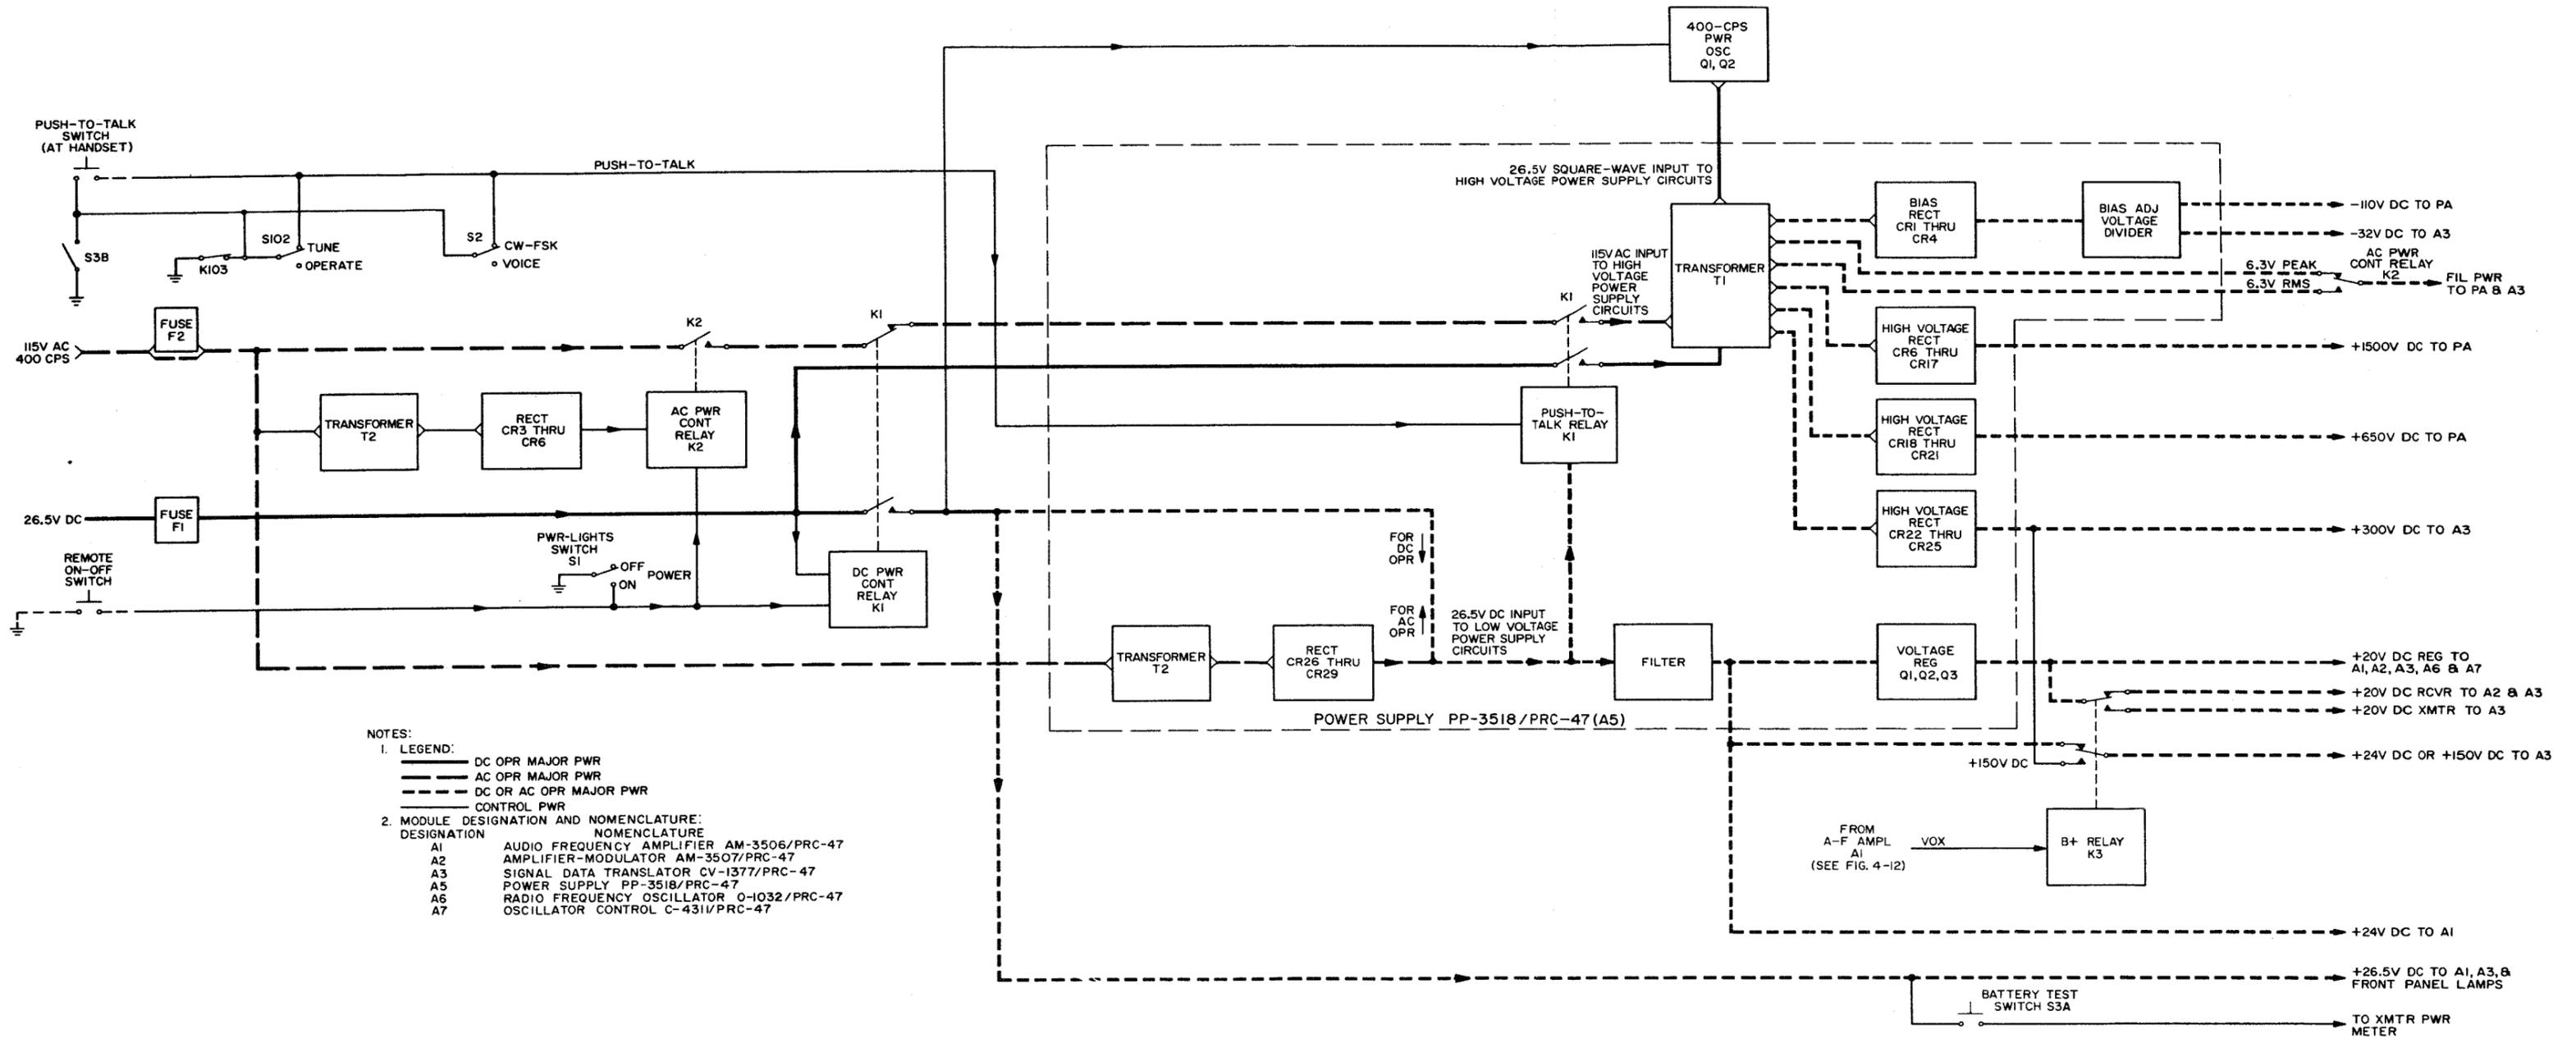

Figure 4-19. Power Supply Circuits, Detailed Block Diagram
b. POWER SUPPLY CIRCUITS, DETAILED DESCRIPTION. (See figure 4-19.)
(1) 115-VOLT A-C POWER INPUT. - When 115-volt a-c, 400-cps power is used, the power is fed through fuse F2 and transformer T2, to rectifier CR3 through CR6 in Electrical Equipment Chassis CH-474/PRC-47. The rectifier output is +26.5-volt d-c power which arms a-c power control relay K2. Relay K2 is energized from front panel POWER-LIGHTS switch S1 or from a remote on-off switch. When K2 is energized, 115-volt a-c power from the primary of T2 is fed through the K2 contacts and the contacts of de-energized d-c power control relay K1 to the high-voltage power supply circuits in Power Supply PP-3518/PRC-47. The 115-volt a-c power at the input to the transmitter-receiver is also routed through fuse F2 to step-down transformer T2 in Power Supply PP-3518/PRC-47. Transformer T2 drives rectifier CR26 through CR29 to produce +26.5-volt d-c power. This power is used to feed the low-voltage power supply circuits for reception.